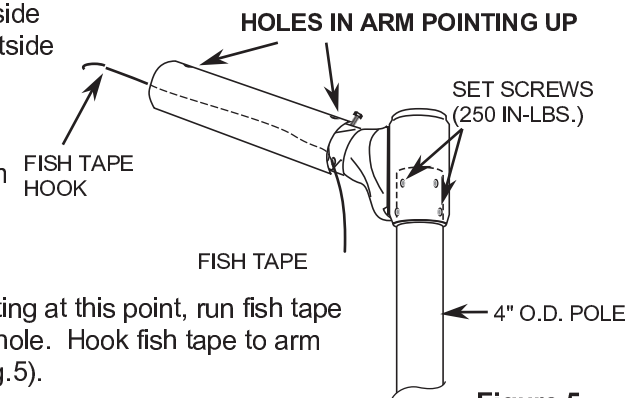

Figure 5
5. Locate hole in bottom of boot casting, on round portion near arm. Starting at this point, run fish tape through arm, out top. Note: Do not run fish tape through boot casting hole. Hook fish tape to arm end at approximately 2:00 o'clock position looking into arm end (See fig.5).